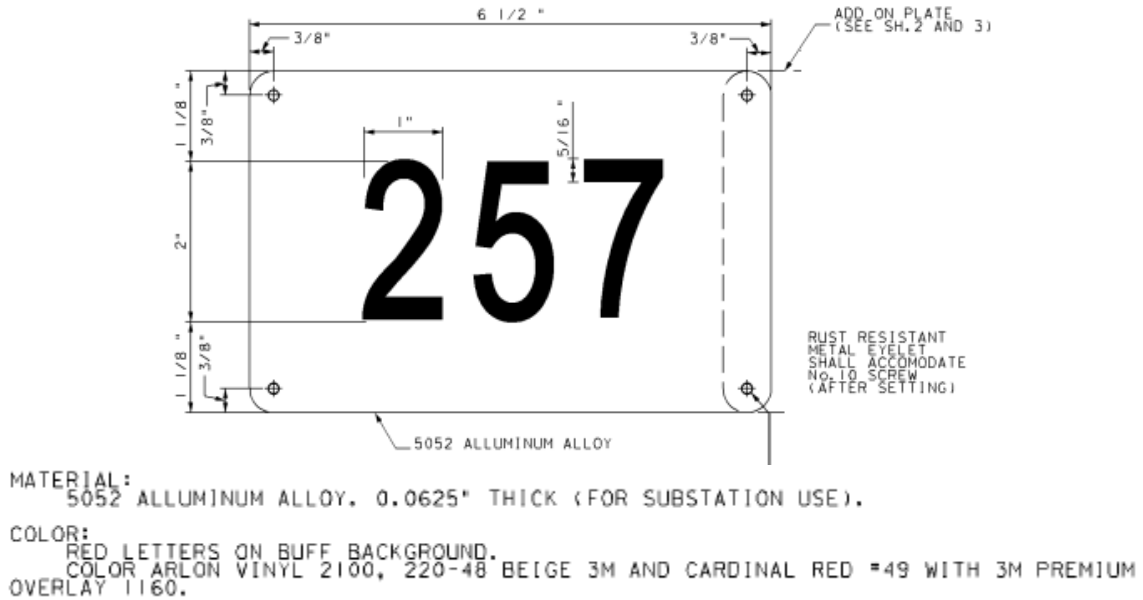

Figure 2. Example of a Switch Target Plate
1. IF the facility has multiple feeds with multiple, separate disconnect switches, THEN each disconnect requires a separate switch target plate. (SEE Figure 2, "Example of a Switch Target Plate," on Page 4.)